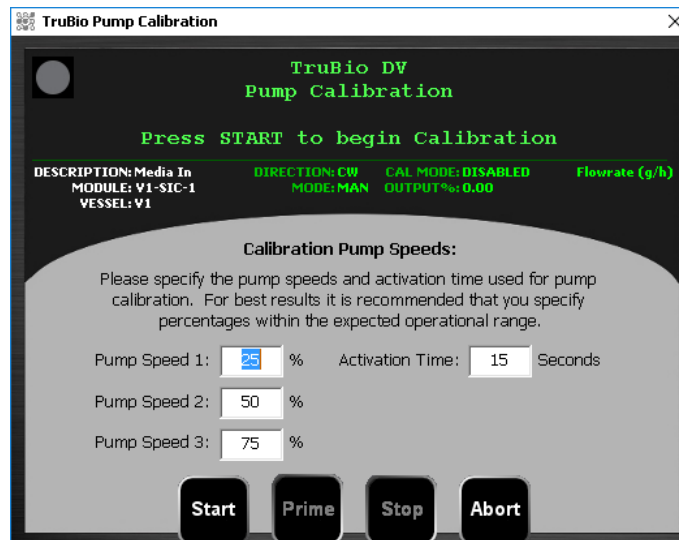

Figure 2.34. Calibration pump speeds screen.
- Click **Calibrate**, which opens the screen shown in Figure 2.34. The screen displays the default settings for the calibration.